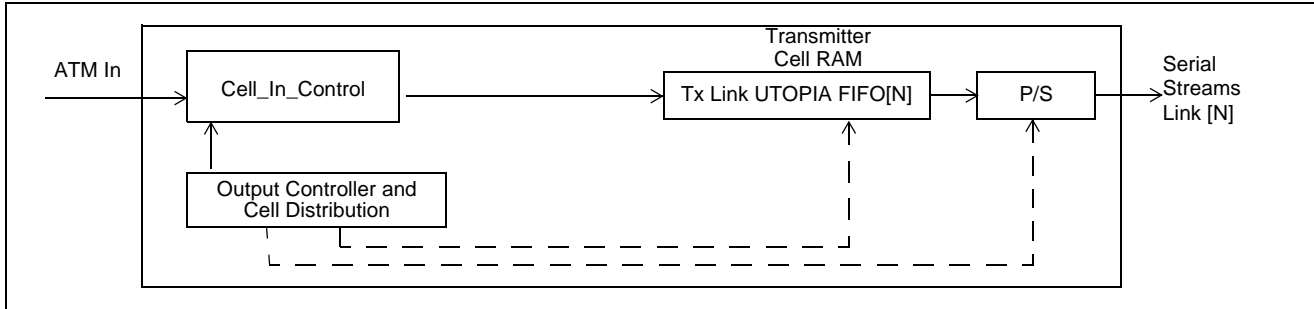

Figure 6 - Functional Block Diagram of the Transmitter in TC Mode
A maximum of sixteen independent serial interfaces can be configured in TC mode (16 for the ZL30228, 8 for the ZL30227 and 4 for the ZL30226). Figure 6 gives a functional block diagram of the transmitter in Transmission Convergence (TC) mode.